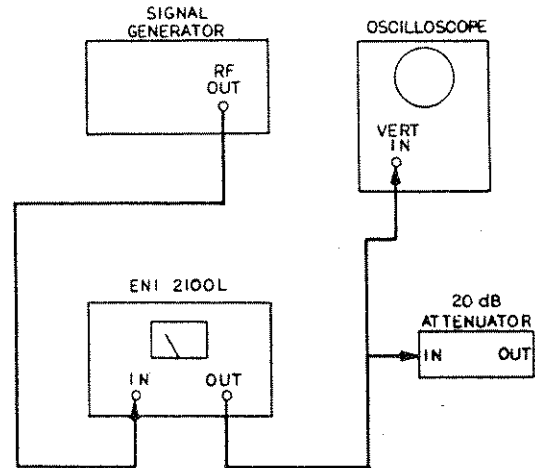

Figure 4-2.
- 3.) Reconnect the equipment as shown in Figure 4-2, then proceed as follows: